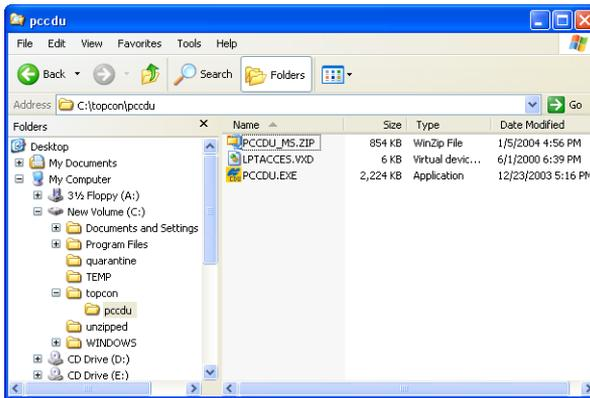

Figure 2-1. Extract Program and Create Shortcut
3. Extract the PCCDU.EXE and associated \*.dll file to the PC-CDU folder (Figure 2-1).
4. Optionally, create a shortcut on the computer's desktop for quick access to PC-CDU (Figure 2-1).